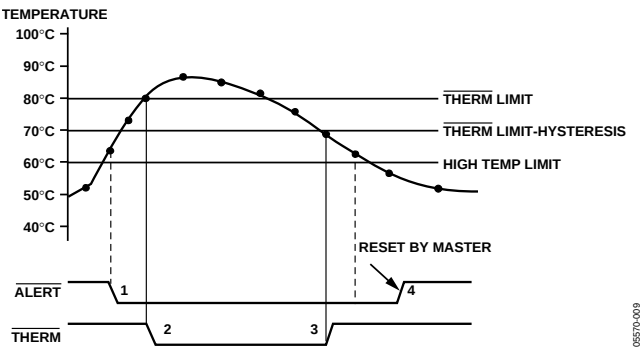

Figure 20. Operation of the  $\overline{\text{ALERT}}$  and  $\overline{\text{THERM}}$  Outputs
Figure 20 shows how the  $\overline{\text{THERM}}$  and  $\overline{\text{ALERT}}$  outputs operate. The  $\overline{\text{ALERT}}$  output can be used as an  $\overline{\text{SMBALERT}}$  to signal to the host via the SMBus that the temperature has risen. If the temperature continues to increase, the  $\overline{\text{THERM}}$  output can be used to turn on a fan to cool the system. This method ensures that there is a fail-safe mechanism to cool the system, without the need for host intervention.
- The  $\overline{\text{THERM}}$  output deasserts (goes high) when the temperature falls to  $\overline{\text{THERM}}$  limit minus hysteresis. In Figure 20, the default hysteresis value of 10°C is shown.